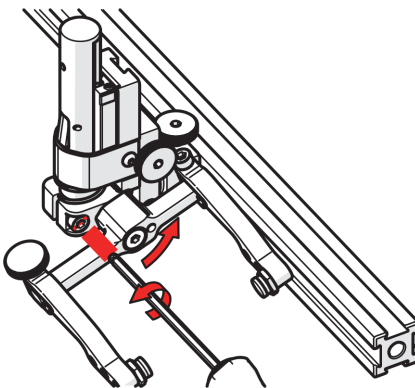

Figure 2-60 Loosen 3 mm screw
2. Using the supplied 3 mm hex driver, loosen the transverse adjustment screw, and rotate the yoke around the vertical shaft to achieve the desired angle (see Figure 2-60 on page 97).